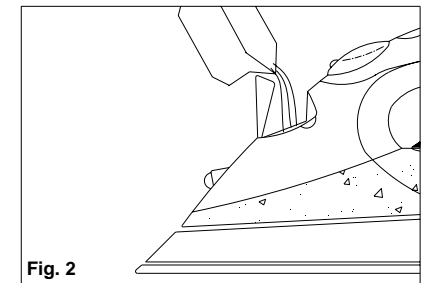

Fig. 2
2. Holding the iron at a slight angle, pour water slowly into the water filling inlet. (Fig. 2) Fill tank to desired level or to the "MAX" water level marking using the water filling flask. (When the iron is upright, see-through water tank allows you to gauge the amount of water.) **DO NOT** overfill the tank.